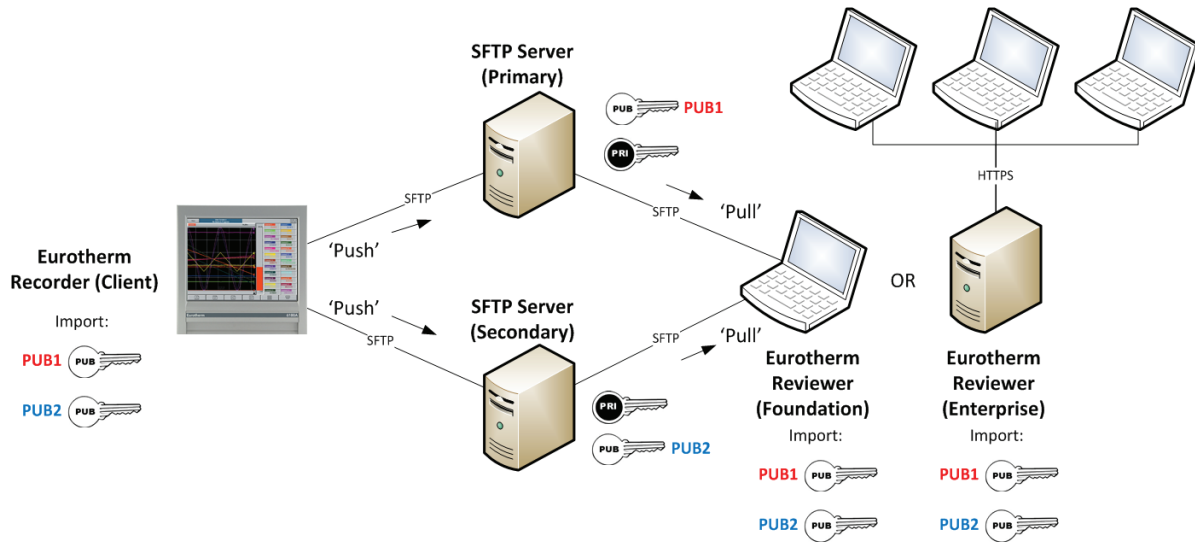

Figure 4.8b Secure FTP - Recorder as a Client
There are various system configurations, *Figure 4.8b Secure FTP - Recorder as a Client* displays a 6000 recorder as a client, connecting to two servers that are both running an SFTP server application.
- Export, or request a copy of the servers current SFTP public key. If connecting to multiple servers, the public key will be required from each server. (See *PUB1* and *PUB2* public keys, in “Figure 4.8b Secure FTP - Recorder as a Client” on page 250)
The Import Public key menu enables the user to import a SFTP Public key from an SFTP configured server. An example could be a recorder connected to and uploading, transferring data securely to an archive 'primary' server (or multiple servers), see "Figure 4.8b Secure FTP - Recorder as a Client" on page 250.